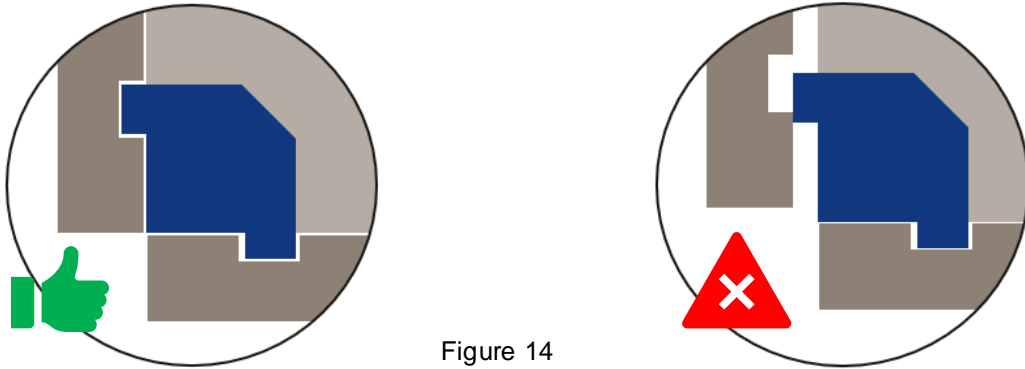

Figure 14
- If visible, check interlocking of panels on girders is OK before going on (figure 14)
- Re-check interlocking of panels on girders is OK before going on (Figure 14).